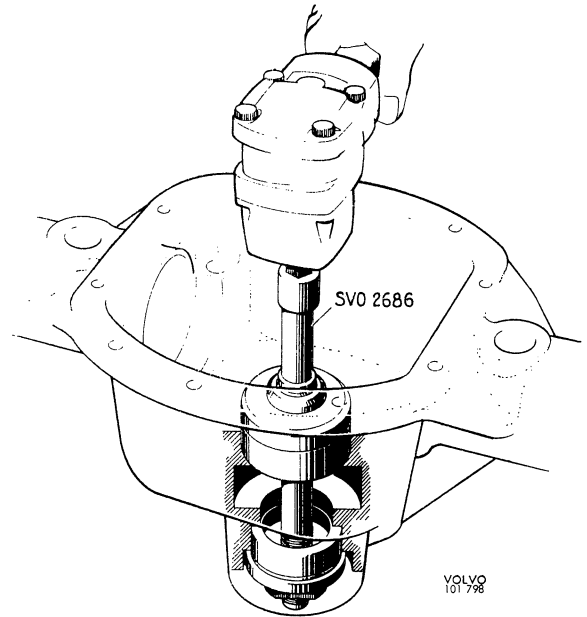

Fig. 4-154. Fitting bearing races
fitted when reconditioning. Place on the measured shims and press in both the outer rings of the bearings with tool SVO 2686, see Fig. 4-154.
3. When the correct backlash and contact pattern are obtained, remove the differential and adjusting ring. Then place the centre washer on the measuring fixture. Fit a bearing into the measuring fixture, likewise the plate, spring and nut. Fit the nut with the flat side facing downwards. Rotate the plate forwards and backwards several times. Put on the dial indicator and retainer SVO 2284. Zero-set the indicator to the adjusting ring and then place the measuring point facing the bearing, see Fig. 4-154. Read off the indicator. With a micrometer measure the shims, the total thickness of which corresponds to the readoff value + 0.07 mm (0.003"). Place the shims together with the measured bearing to the one side. Repeat the above procedure with the other bearing.